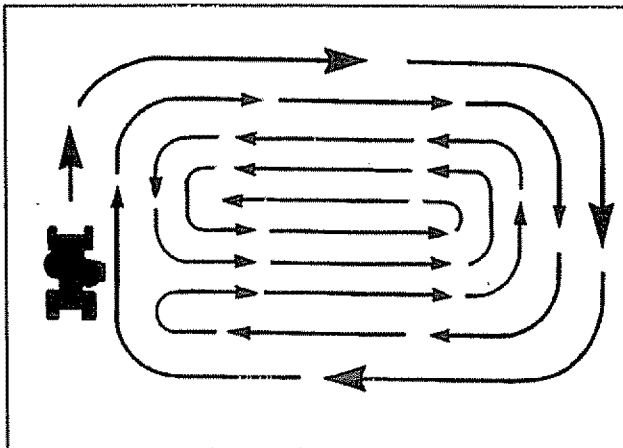

FIG. 9
- When mowing large areas (without mulching plug installed), start in a clockwise direction so clippings will be discharged away from shrubs, fences, driveways, etc. After one or two rounds, mow in counterclockwise direction until finished (see FIG 9).